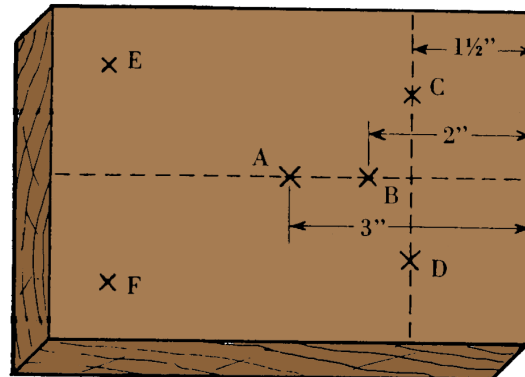

Figure 1
1. Lay out the board with a pencil and ruler as shown in *Figure 1*.